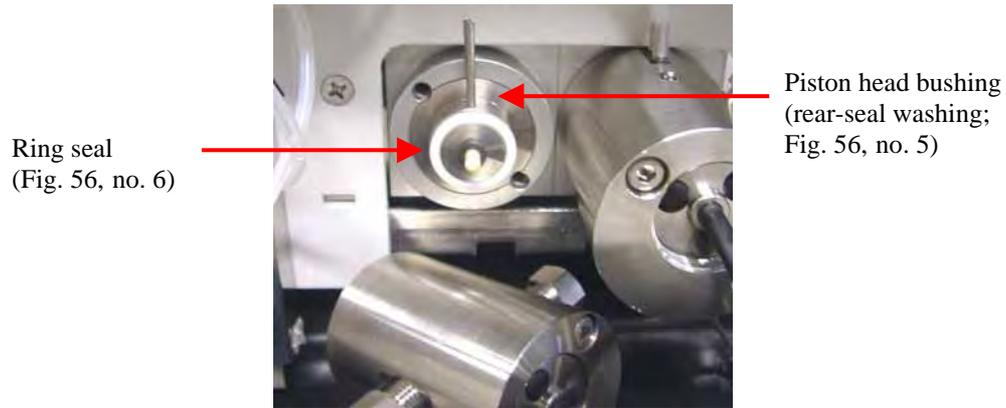

Fig. 59: Pump head removed
- Carefully remove the bushing of the seal-washing chamber from the piston (including the seal, → Fig. 59).